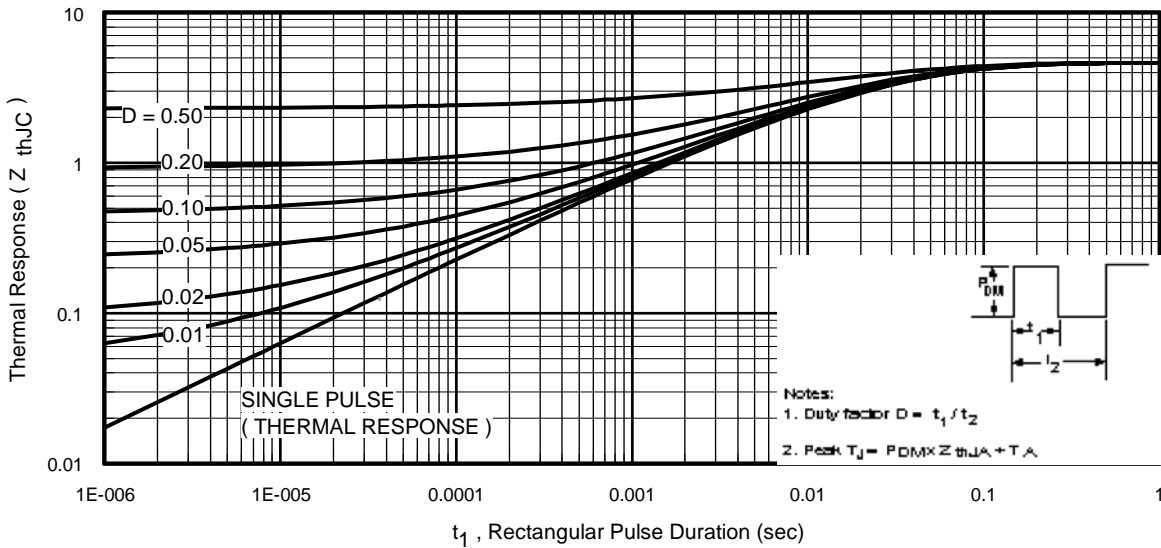

Fig 11. Maximum Effective Transient Thermal Impedance, Junction-to-Case
- ① Repetitive rating; pulse width limited by max. junction temperature. (See fig. 11)
- ② Starting $T_J = 25^\circ\text{C}$, $L = 51\text{mH}$